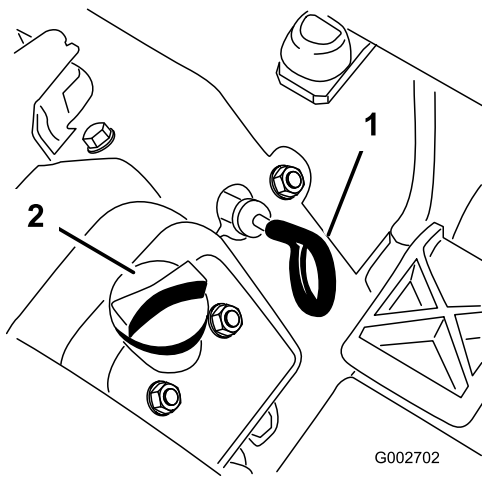

Figure 24
3. To keep dirt, grass clippings, etc., out of the engine, clean the area around the oil-fill cap and dipstick before removing it (Figure 24).
4. Pull out the dipstick (Figure 24) and wipe it with a clean rag.